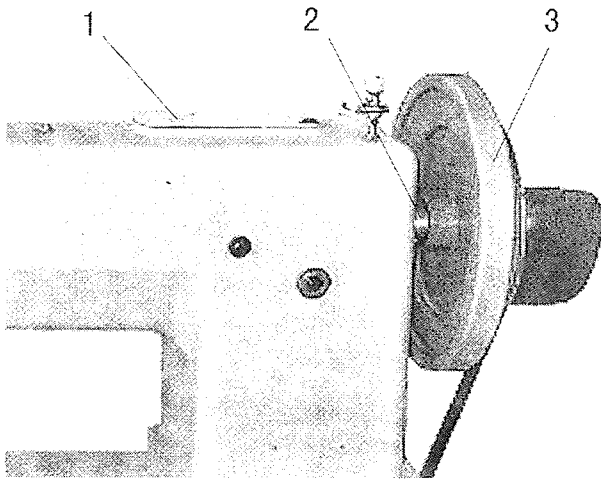

Fig.37
2) Replacement of the connection belt when damaged (Figs. 37 & 38)